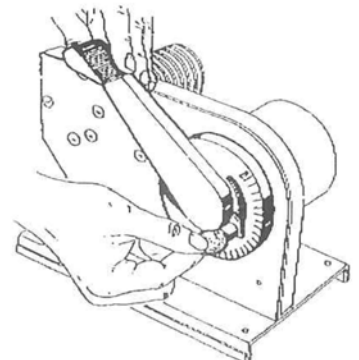

Figure 4
- 6) To use the machine, set the Lever to the desired length of tape to be fed. See Figure 4. This is done by loosening the Thumb Screw, adjusting the Lever to the desired position on the scale and then tightening the Thumb Screw. With each pull of the Lever the desired length will be fed out.